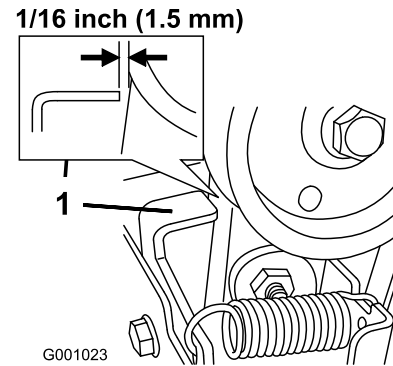

Figure 42
3. With the auger/impeller lever disengaged, ensure that the gap between the auger clutch assembly and the tab is 1/16 inch (1.5 mm) (Figure 42).